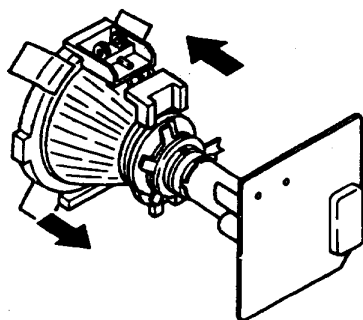

Fig. 3-1
(See Figures 3-1 through 3-3.)
4. Move the deflection yoke forward and adjust so that entire screen is red. (See Figure 3-1.)